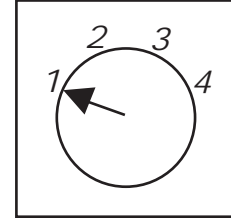

Figure 1 – Voltage Setpoints
1. Before installing, turn regulator over and select appropriate voltage setpoint for battery type (See Table 1 and Fig. 1).